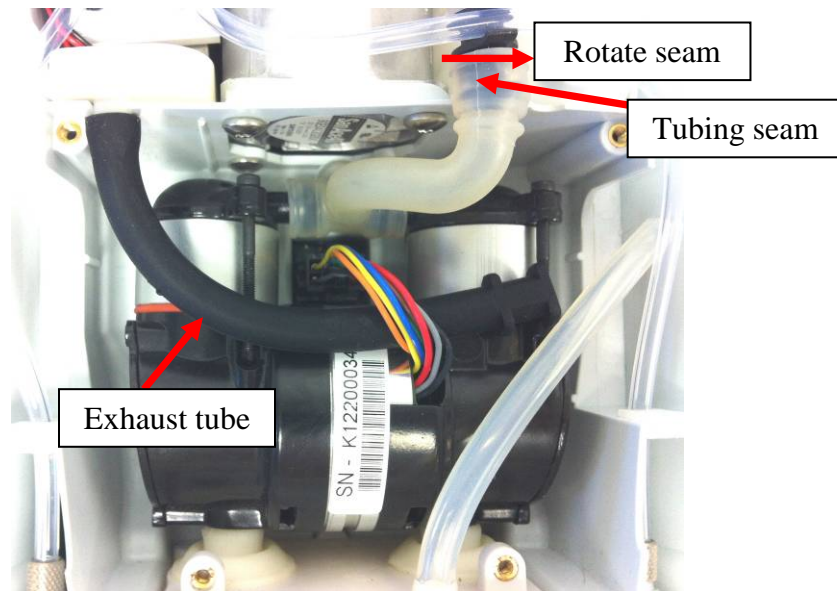

Figure 15: Exhaust tube properly oriented through compressor cable
5. Attach the other end of the feed tube back onto the black inlet union (Figure 8). The tubing seam should be rotated as far to the right as possible to prevent the compressor from striking the back of the chassis (Figure 15).
7. Maneuver the exhaust tube back through the compressor cable loop (Figure 15).